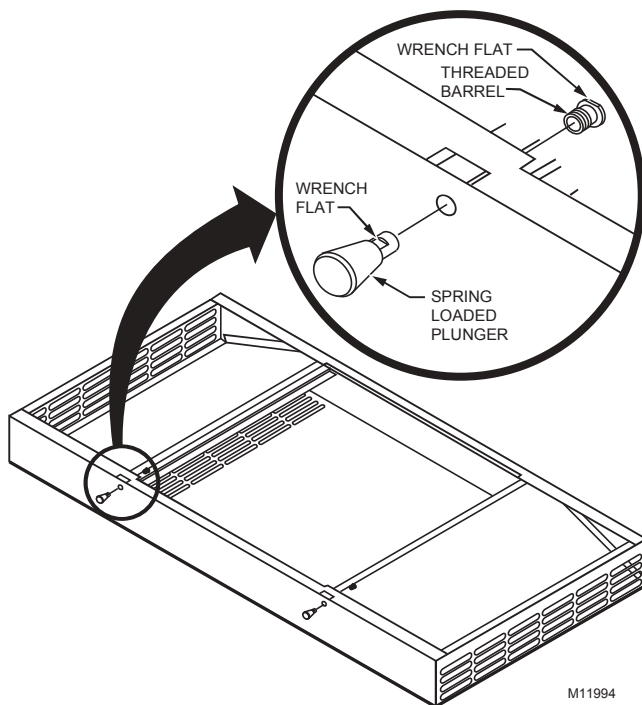

Fig. 7. Lid assembly.
1. Pull the plunger back and twist a quarter turn to reveal the wrench flat on the body of the spring loaded plunger (see Fig 7.)